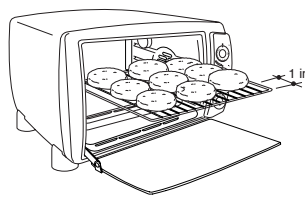
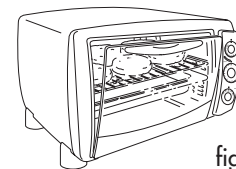

fig. 2
fig. 3
Preheat the oven for 5 minutes, with the door slightly ajar (as highlighted in Figure 1). Once the preheating time is complete, place the food being grilled directly on the wire rack (Figure 2) and close the door, leaving it ajar, as shown in Figure 3; remember to turn the food half way through cooking.
Important: for best results, place the food on the wire rack (O), leaving an empty space of around 1 in near the door (see Figure 2).